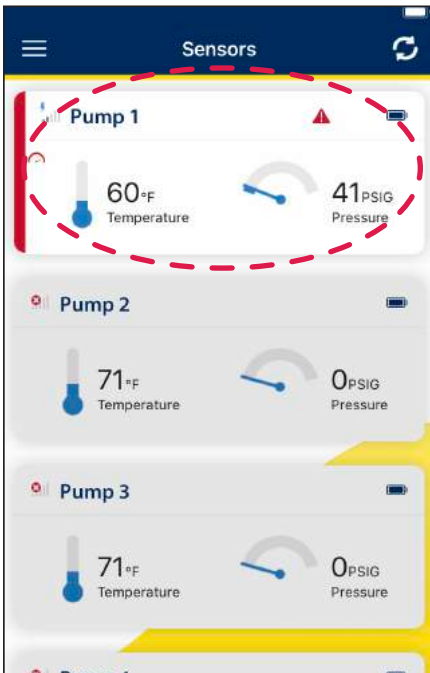

Figure 19
1. Select the sensor you want to retrieve the measured data from (example on figure 19).